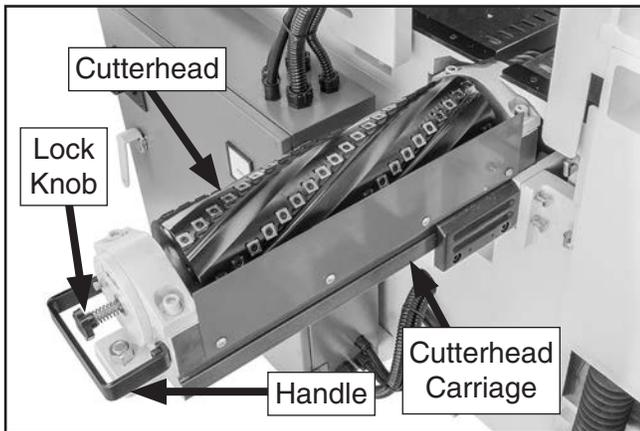

Figure 51. Lower cutterhead pulled out of cutterhead carriage.
- Use handle to pull lower cutterhead out of cutterhead carriage (see **Figure 51**).
- Rotate pulley as needed to make inserts accessible, and then tighten cutterhead lock knob (see **Figure 51**) to secure cutterhead while cleaning, rotating, and replacing inserts.